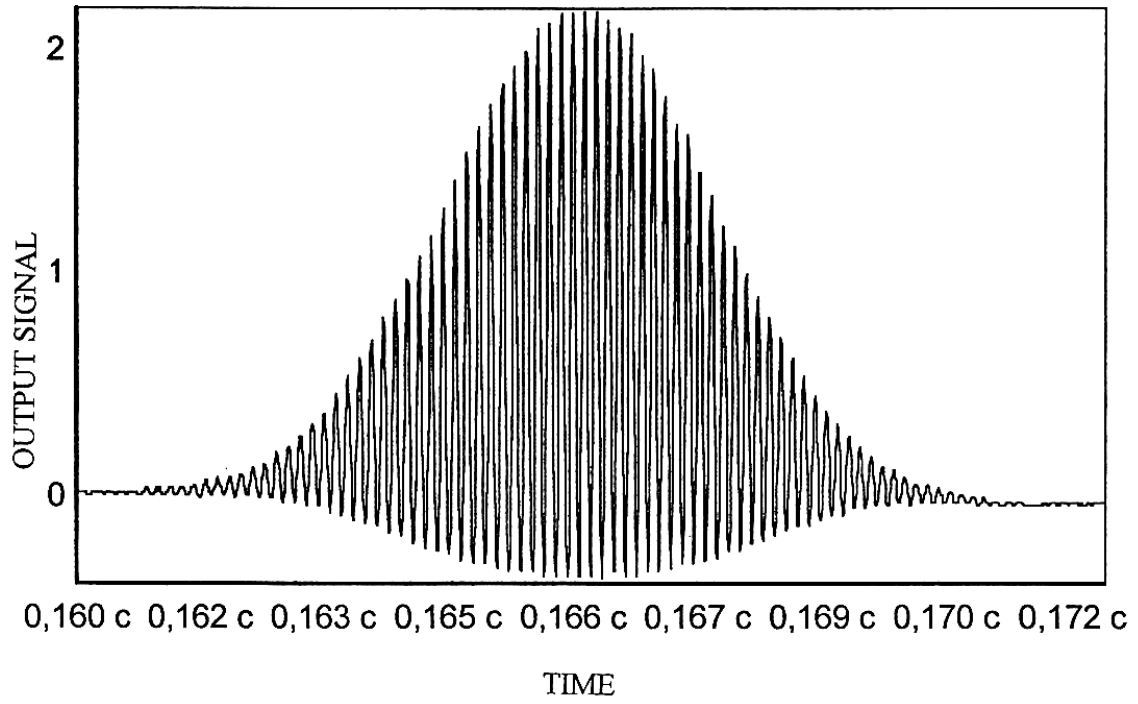

Figure.4
- 5.26 To display interferometric autocorrelation function (Figure.4) set low frequency ("Freq" 2-5Hz) and big bandwidth ("Filter" -max). The autocorrelation function must be symmetric. If the function is observed to be asymmetric, the autocorrelator is either misaligned relative to the input beam or internally misaligned.